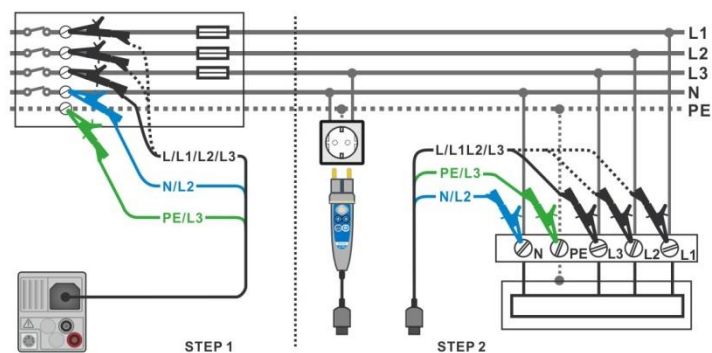

Figure 7.85: AUTO TT measurement
- ▶ Connect test leads or Plug commander to the object under test, see **Figure 7.85**.